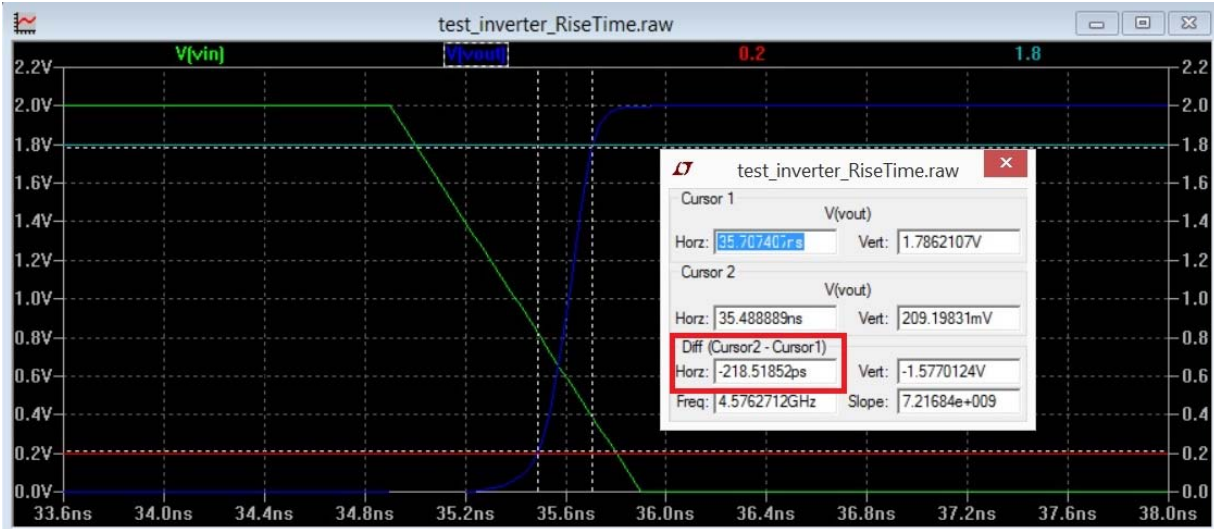

Figure 33. Capture the rise time from graph
- E. Move the cursors to the rising edge of the Vout to find the rise time as Figure 33. The rise time equals to 218.51852ps which is the absolute value of the Diff (Cursor2-Cursor1)